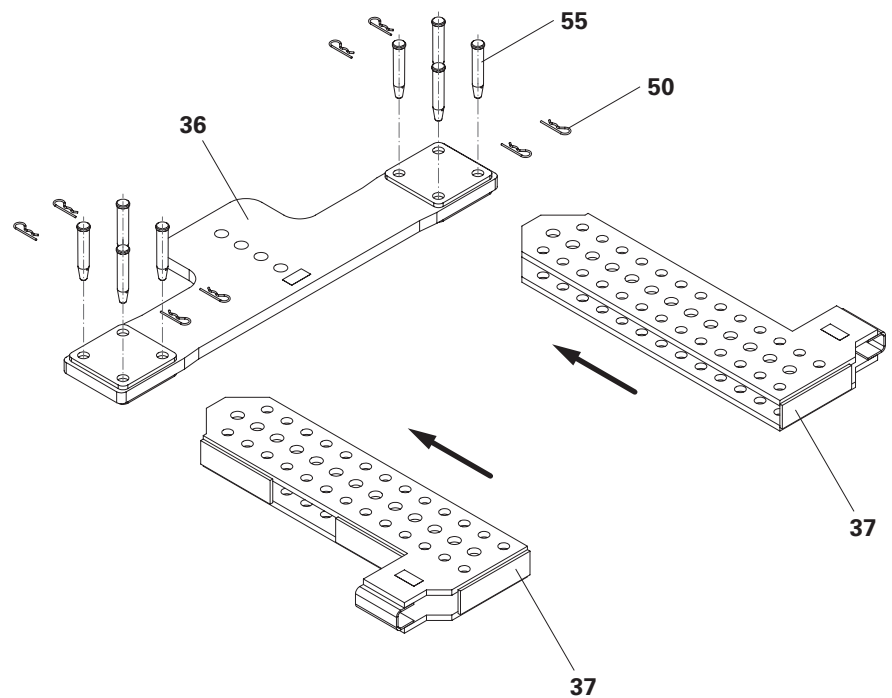

Fig. B2.10
3. Fix two bracing traverse connectors (**37**) to the bracing traverse (**36**) with the bolts (**55**) and secure with cotter pins (**50**). (Fig. B2.10)